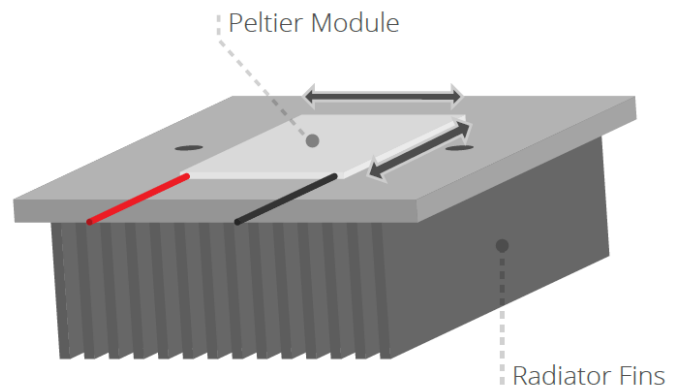

FIGURE 4. INSTALLING THE PELTIER MODULE
- 3) Place the heat-emitting side of the Peltier Module onto the appropriate place on the radiator fins. While applying light pressure to the unit, slide the unit back and forth, left and right, approximately 20 times to ensure a good fit and to lose any layer of air between the connecting sides. **(figure 4)**